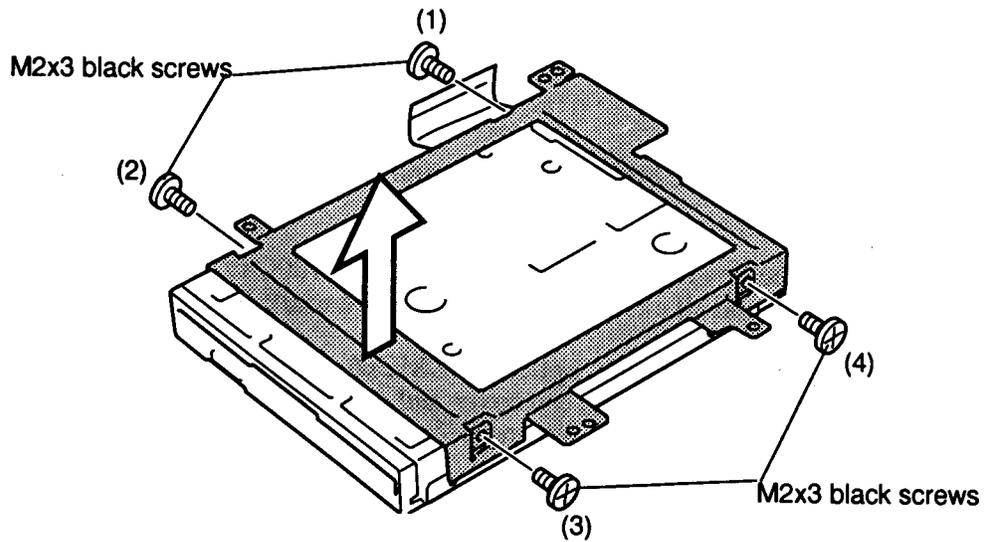

Figure 4-18 Removing the HDD
5. Remove **four M2x3 black screws** securing the bracket to the FDD and slip off the bracket (Figure 4-18).
1. Secure the bracket with **four M2x3 black screws** in the numbered order: 1 to 4 (Figure 4-18). Tighten the screws to a torque of less than 2.2 kgfcm.